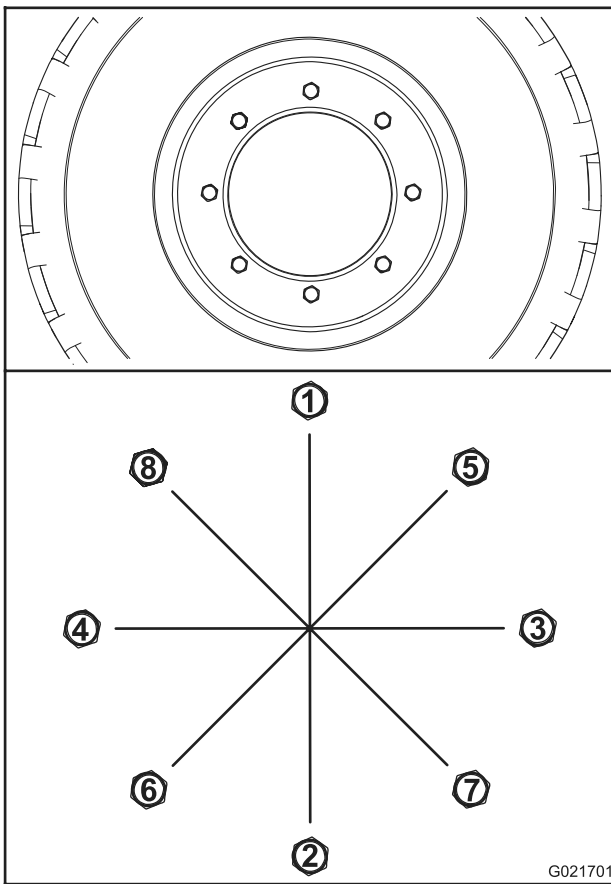

Figure 64
- A. Torque the all wheel nuts to 100 N-m (75 ft-lb) in the sequence shown in Figure 64.
- B. Torque all the nuts to 200 N-m (150 ft-lb) in the sequence shown in Figure 64.
- C. Torque all the nuts to 300 N-m (225 ft-lb) in the sequence shown in Figure 64.